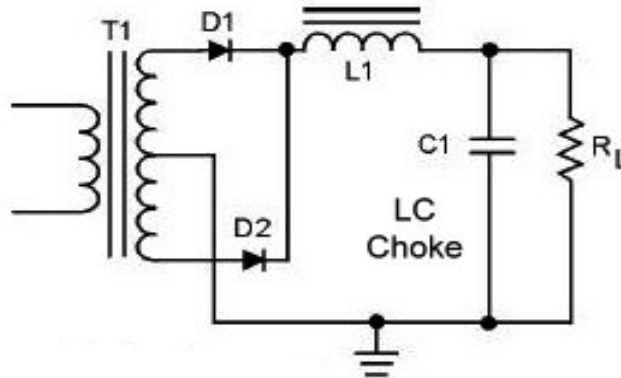

Figure 1: Full wave rectifier with LC filter.
1. Connect the circuit of rectifier with LC Filter on bread board as shown in Figure 1.